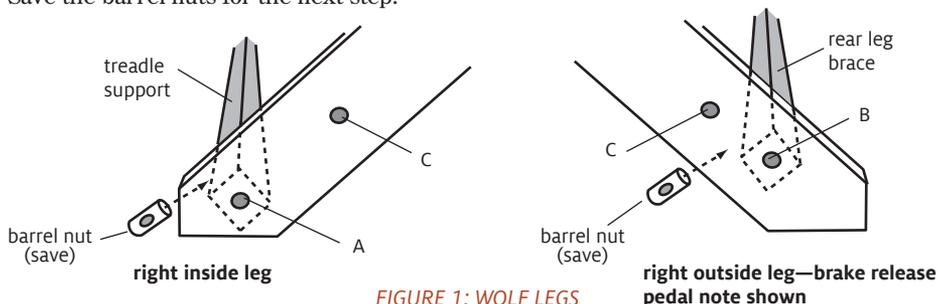

FIGURE 1: WOLF LEGS
3. Remove the machine screws and barrel nuts that hold the treadle support to the inside legs at hole [A] (Figure 1). Save the barrel nuts for the next step.
6. Set the rear leg brace on a block of wood or a few books to elevate the loom back about two inches. Remove the machine screws and barrel nuts holding the rear leg brace to the outside legs at hole [B] (Figure 1, page 2). Save the barrel nuts for the next step.